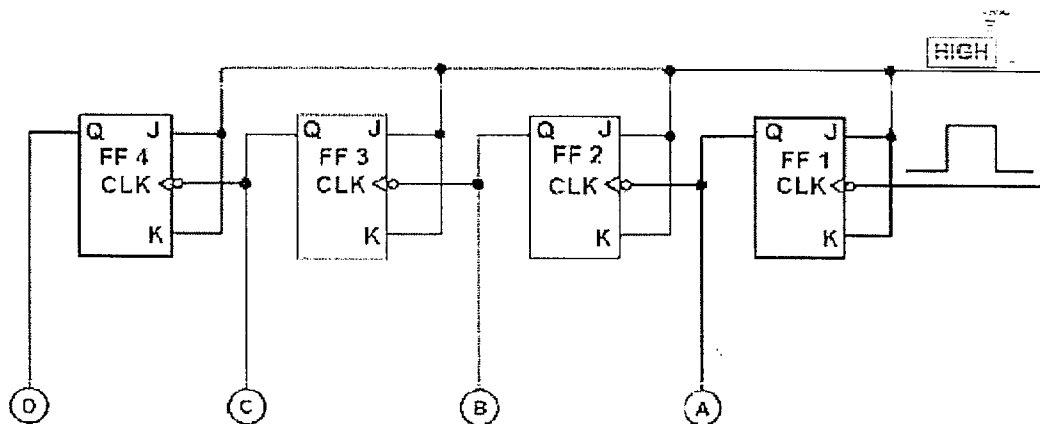

Figure Q1.a
Refer to *Figure Q1.a* given below. Four JK flip-flops are connected for  *toggling*  mode with  $J=K=1$ . Observe that the interconnections between flip-flops consist of only following:
- What type of circuit is shown in the *Figure Q1.a*?